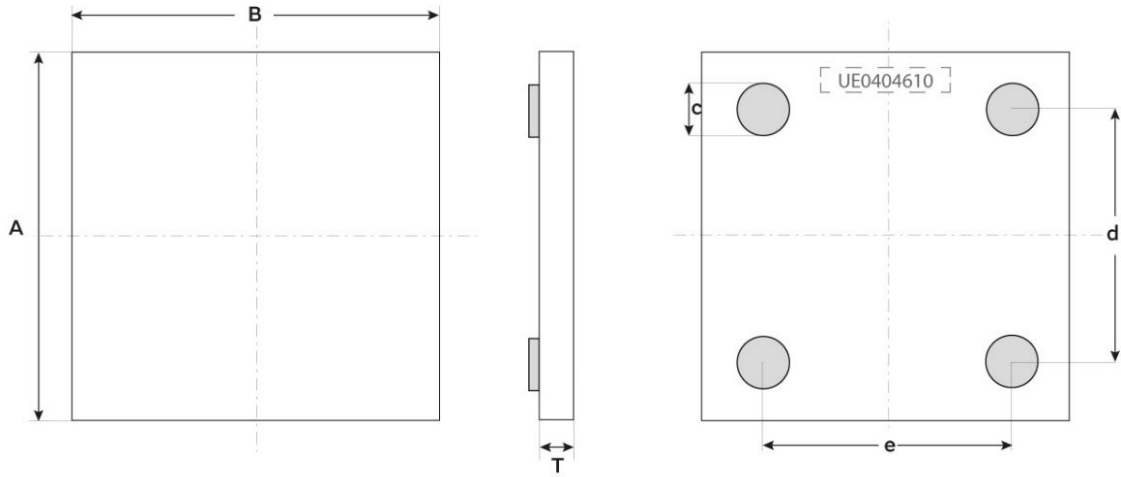

Figure 7 - Package outline drawing
(1) Other film frame carrier are possible on request
(2) Alu (AlSiCu)
(3) missing capacitors can reach 0.5%
(4) Refer to Figure7